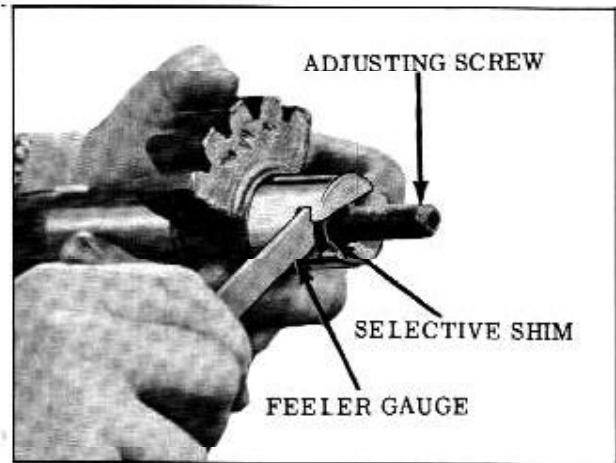

Fig. 4-11 Checking End Clearance
2. Check the end clearance of the adjusting screw in the slot of the pitman shaft. (Fig. 4-11) The screw should rotate freely but not have more than .002" clearance. If clearance exceeds .002", select the proper shim to bring the clearance to specification. (Shim thicknesses are .063", .065", .067", and .069")